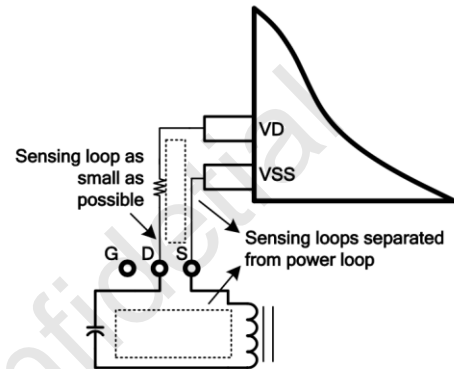

Figure 4. Voltage Sensing for VD/VSS
3. Keep the IC out of the power loop to prevent the sensing loop and power loop from interrupting each other (see Figure 4).